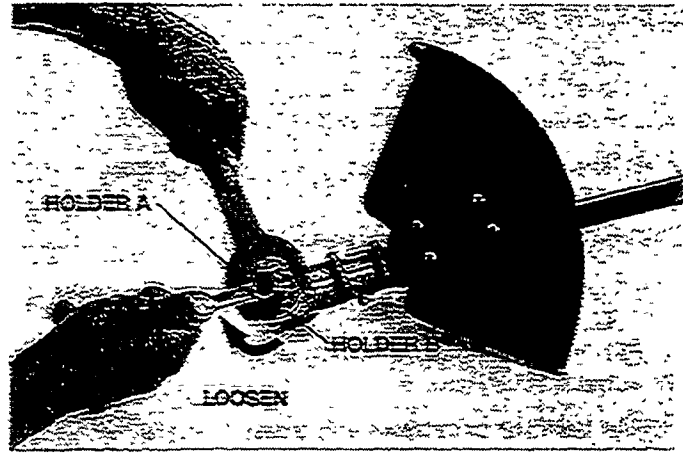

Figure 12
- Using the tools shown in (Figure 12), remove the bolt (left hand thread), star washer, and flat washer at the bottom of the gearcase.